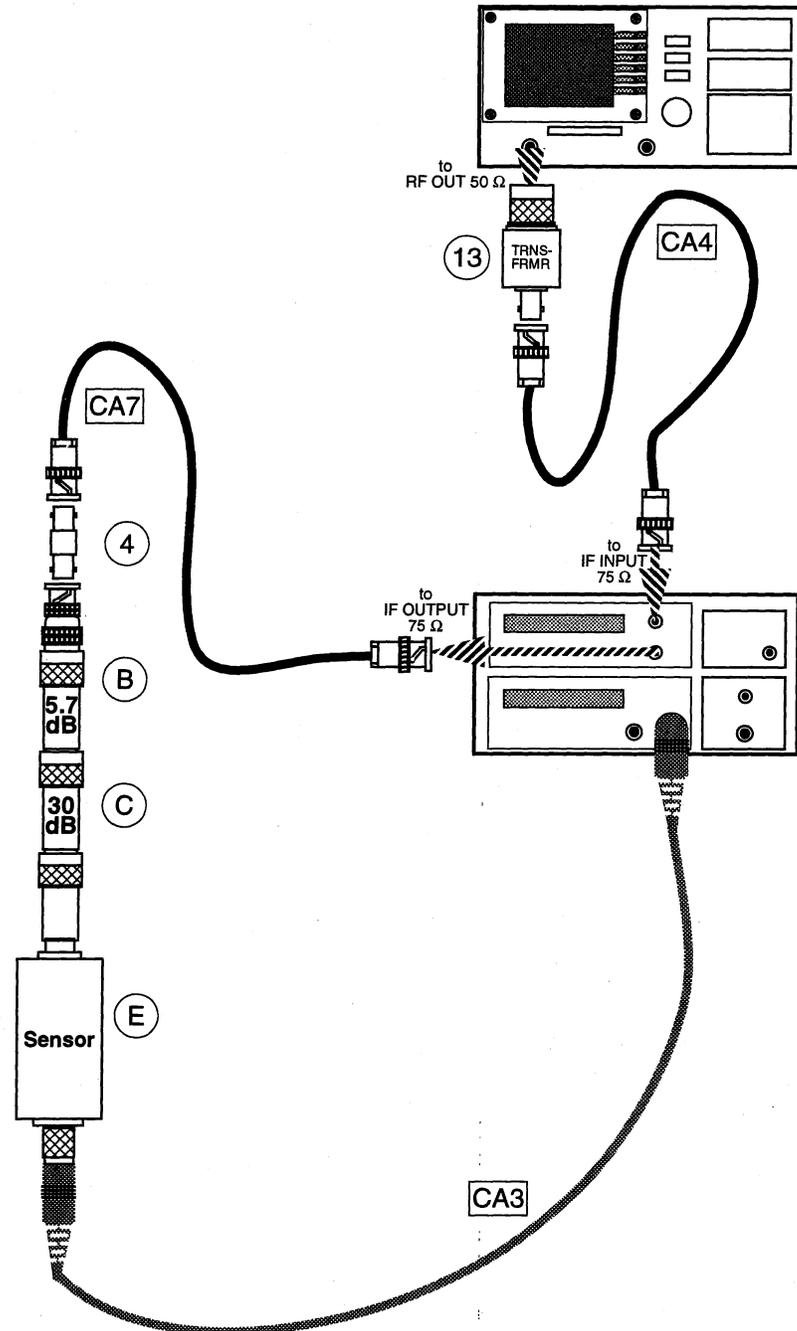

Figure 21. Establish IF Test Signal Level and Center Frequency
- 6 Connect the test equipment as shown in Figure 21.